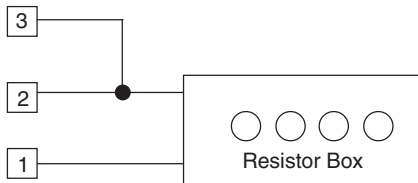

Fig.14
- 1) Connect a resistor box as shown in fig. 14.